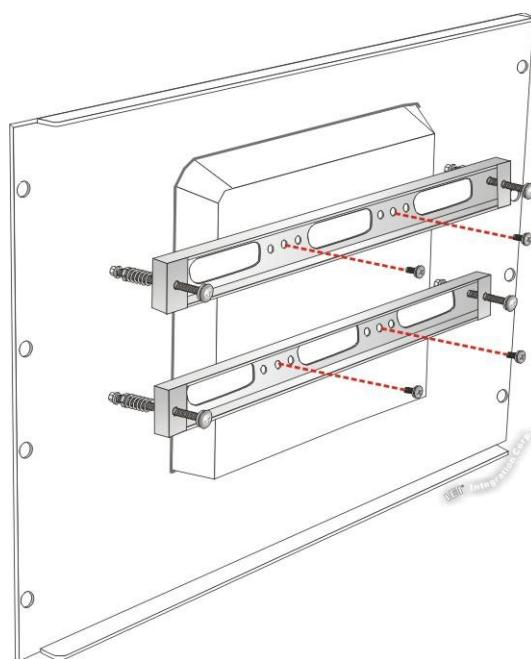

Figure 3-31: Securing Rack Mounting Brackets
Step 5: Secure the two rack mounting brackets to the rear of the panel PC by inserting the four retention screws into the VESA mounting holes and tightening them (Figure 3-31).